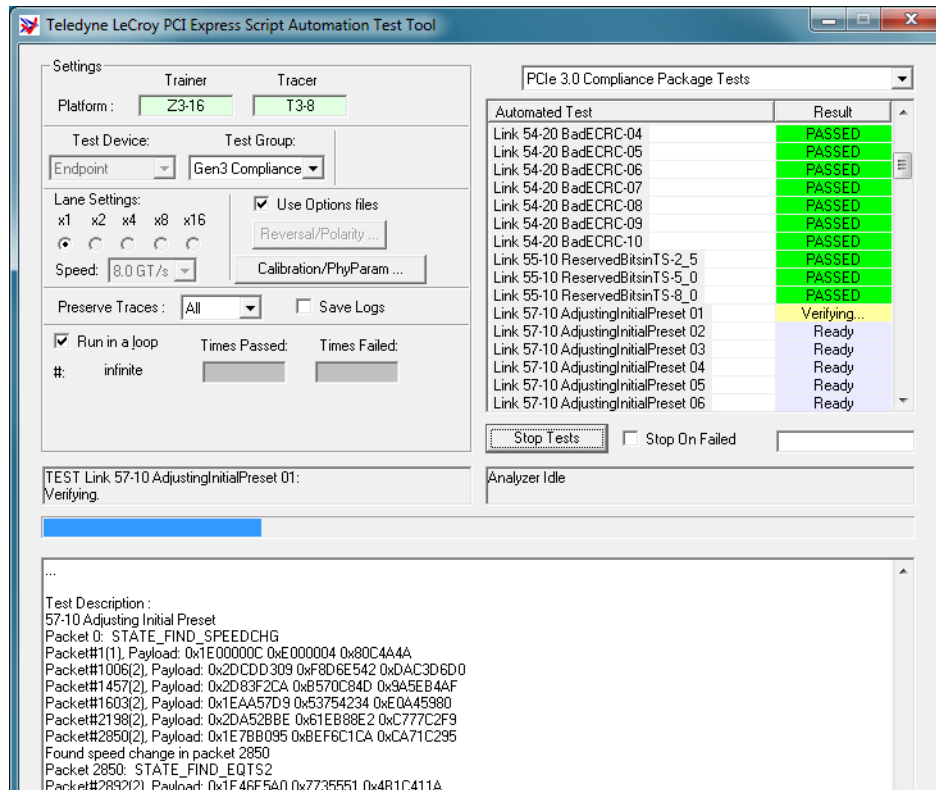

Figure 3.8: Test Results (typical).
8. The test results are shown in the **Result** column in the GUI (Figure 3.8). The test logs will be shown on the lower section and will also be written to log files in the following directory: